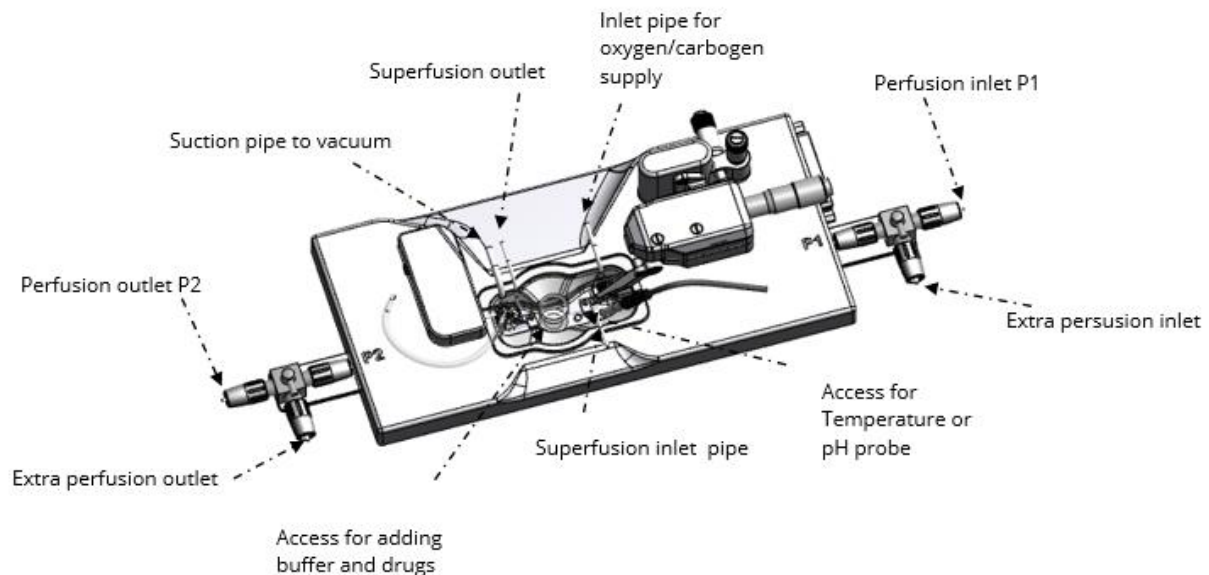
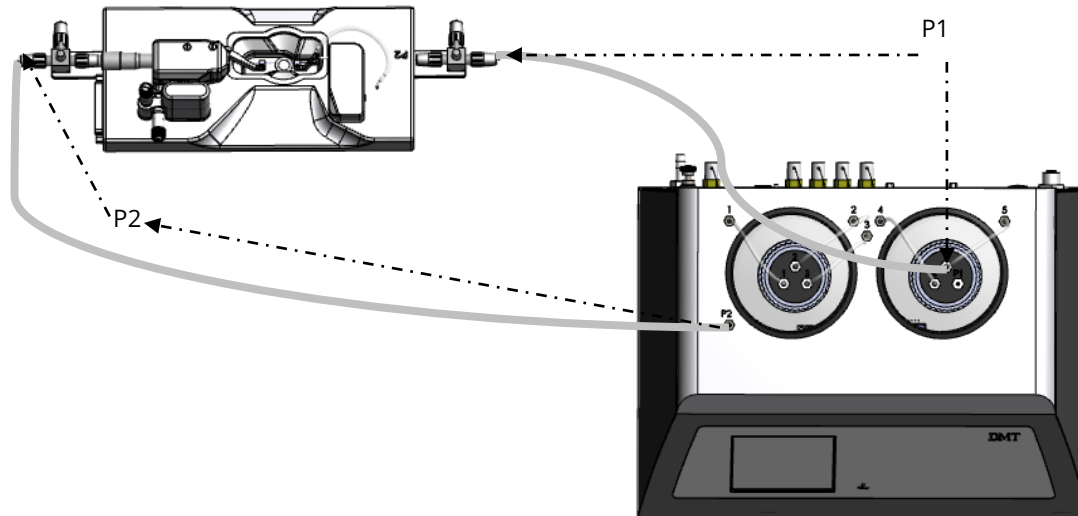

Figure 2.2 External connections for Pressure Myograph 114P
Figure 2.4 External connections for Pressure Myograph - 114P
- Connect the “perfusion inlet” at P1 on the Pressure Myograph (see figure 2.2 and 2.3 for Pressure Myograph - 114P and Pulsatile Pressure Myograph – 112PP, respectively) to the P1 outlet on the cap of the Pressure Interface bottle (see figure 2.4).
- Connect the “perfusion outlet” at P2 on the Pressure Myograph (see figure 2.2 and 2.3 for Pressure Myograph - 114P and Pulsatile Pressure Myograph – 112PP, respectively) to the P2 inlet on the Pressure Interface (see figure 2.4).